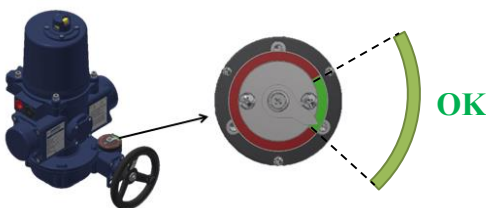

Figure 2
- Assembly completed as shown in the figure below (figure 2).